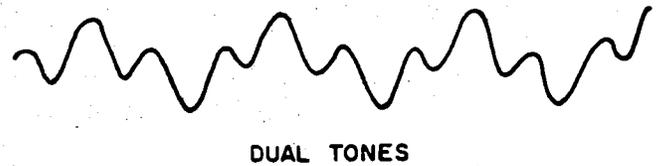

Fig. 12—Proper Dual-Tone Waveform
- (3) Position the TS21 KEYPAD switch to IN.
- (4) Set the power supply output to 30 ± 0.5 volts.
- (5) Position test fixture switch S2 to LOW.
- (6) The milliammeter should indicate between 21 and 23 milliamperes.
- (7) Set channel 1 of the oscilloscope for 1v ac per division and 1 ms sweep per division.
- (8) Ensure that a 1X probe is being used.
- (9) Position the ground-level scope trace to the center of the screen.
- (10) Set the DVM to read ac voltage.
- (11) Press the keypad (#) key and hold it down.
- (12) The DVM should indicate a minimum of 0.4v.
- (13) The oscilloscope should show the clean and non-distorted waveform of Fig. 12.
- (14) Adjust the scope trigger and time base to display a single waveform.
- (15) Repeat steps (11) through (13) for every keypad key in sequence.
- (16) Each key shall produce a waveform similar to that of Fig. 12.